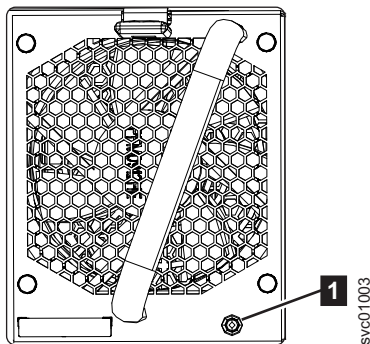

Figure 100. Fan module LED
1. Identify the fan module to be replaced. When lit, the amber LED on the front of the fan module (**1** in Figure 100) identifies a fault.